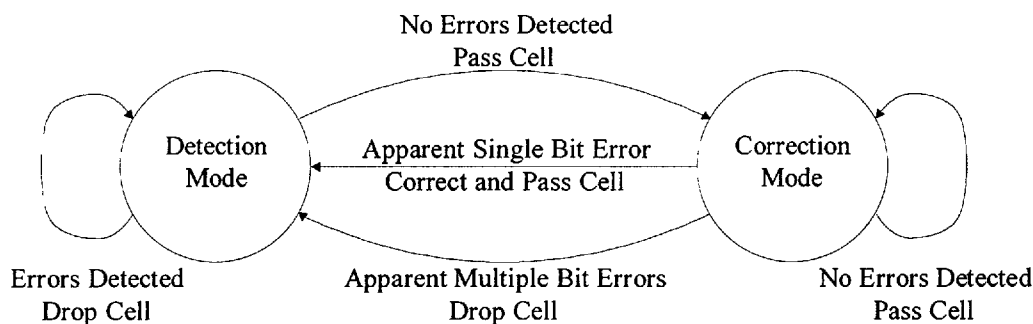

Figure 27. HEC Correction State Machine
- 0 - Allows the receive ATM mapper to correct single bit errors in accordance with ITU Recommendation I.432 (refer to "Appendix B. References" on page 123). In Correction Mode, the receiver mapper corrects headers with single bit errors and detects headers with multiple bit errors. It detects all header errors in Detection Mode. It switches from Correction Mode to Detection Mode when it detects an error. It switches from Detection Mode to Correction Mode when it detects a valid HEC (see Figure 27).